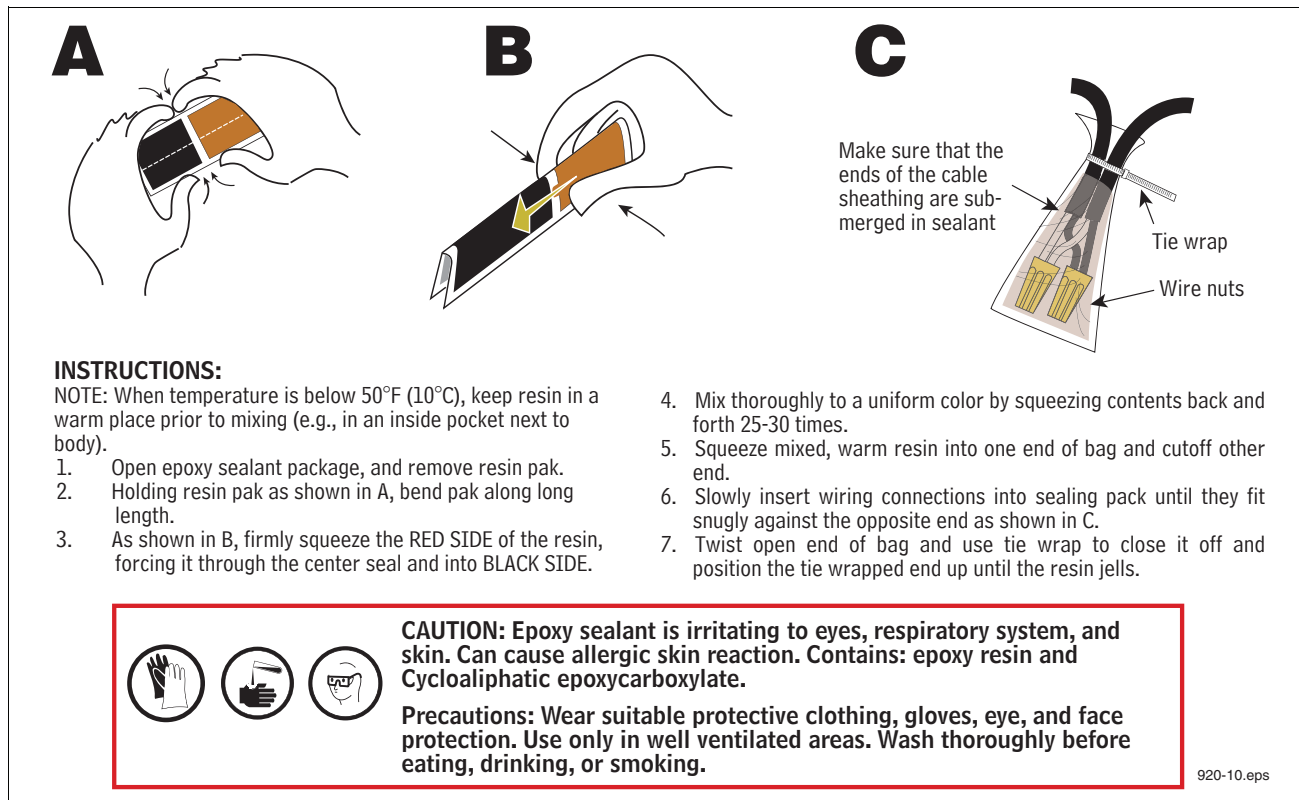

Figure 6. Epoxy sealing CCVP vapor valve field wiring connections - direct-wired CCVP only
13. Following the instructions in Figure 6, seal the wire nuts of each of the two cable connections in the epoxy pack provided.